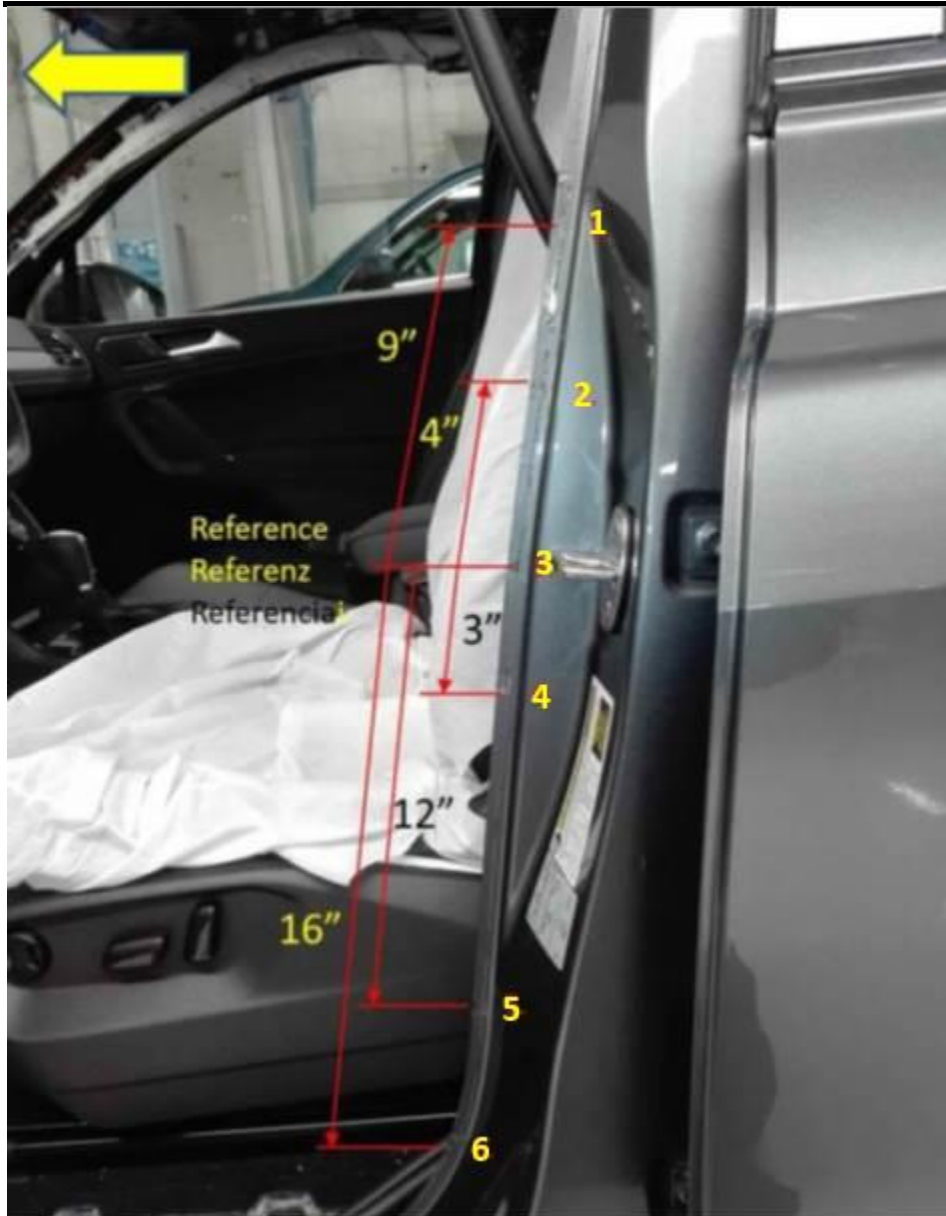

Figure 9: Sequence, bend back and forth on the metal panel of the front door frame, use the striker as the reference point.
- 4.1 Using vice grips or equivalent, clamp in the (6) areas indicated, bend back and forth the metal panel of the front door frame. Following the sequence described, see Figure 9.